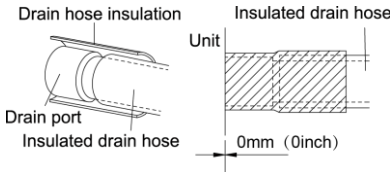

Fig. 4.26
- (1). Be sure to insulate where the drain port and the drain hose is connected.(Fig. 4.26)